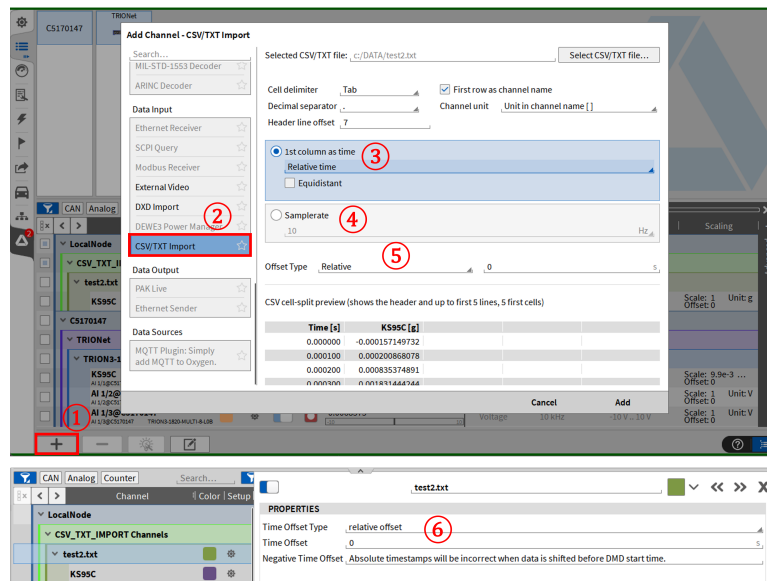

Fig. 7.171: CSV/TXT import
In OXYGEN Viewer it is possible to import CSV or TXT data as a channel. This is only available in PLAY mode (see ① in Fig. 7.171). The first column can be interpreted as relative or absolute time (see ③ in Fig. 7.171). The Equidistant option allows asynchronous data to be read in with a virtual sampling rate. In case no time is included a synchronous sample rate can be defined (see ④ in Fig. 7.171). An optional time offset can be defined before adding the channel (see ⑤ in Fig. 7.171) or subsequently in the properties (see ⑥ in Fig. 7.171). The imported channel can be found in the group CSV\_TXT\_IMPORT Channels in the channel list.